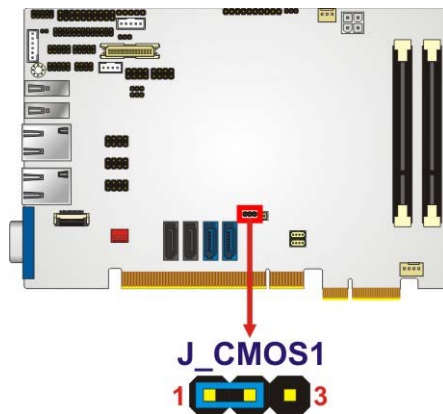

Figure 4-9: Clear CMOS Jumper
- Jumper Location:** See Figure 4-9
The location of the clear CMOS jumper is shown in **Figure 4-9** below.